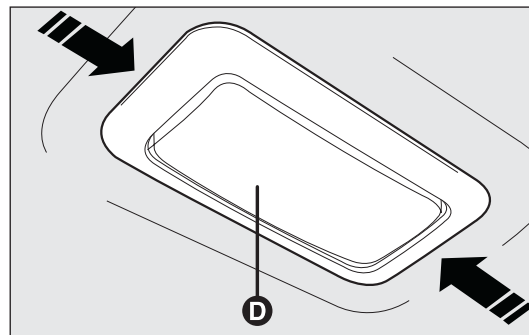
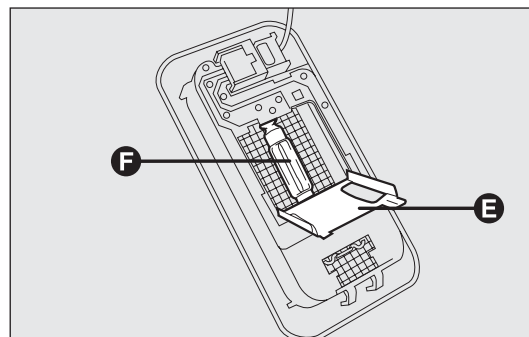

fig. 182
fig. 183
- ☐ manipulate the points shown by the arrows and remove light D-fig. 182;
- ☐ open the protective flap E-fig. 183;
- ☐ replace bulb F-fig. 183 by releasing it from the side contacts and making sure that the new bulb is correctly clamped between these contacts;
- ☐ re-close the protective flap E-fig. 183 and fit light D-fig. 182 into its housing, making sure it locks into place properly.